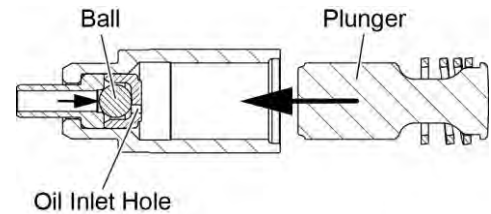

Figure 61
- (1) Clean and lightly coat the lifter parts with engine oil before assembly.
- (2) To assemble the unit, unseat the ball (Figure 61) by inserting a thin clean bronze wire through the oil inlet hole.
- (3) With the ball off its seat, insert the plunger and turn it clockwise until the spring engages.